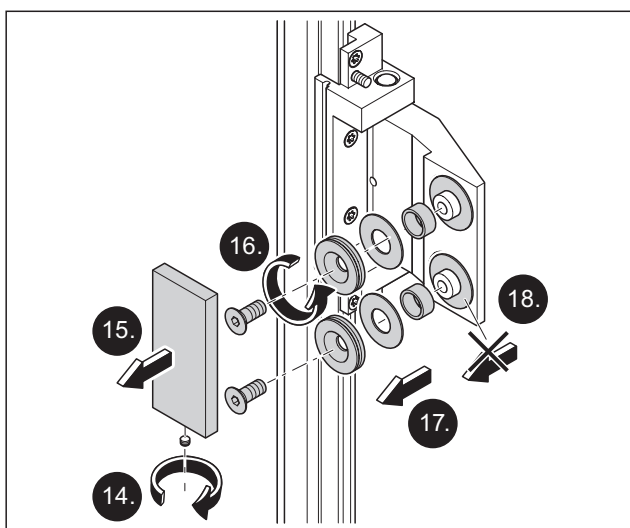

Fig. 40 Prepare door hinges for door mounting.
14. Unscrew the covers' grub screw (Fig. 40).